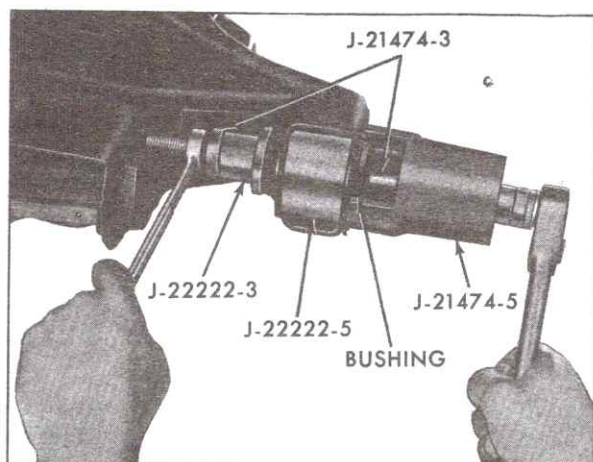

Fig. 3-39 Installing Lower Control Arm Bushings
1. Install tools as shown in Fig. 3-39, and press bushings into lower control arm.